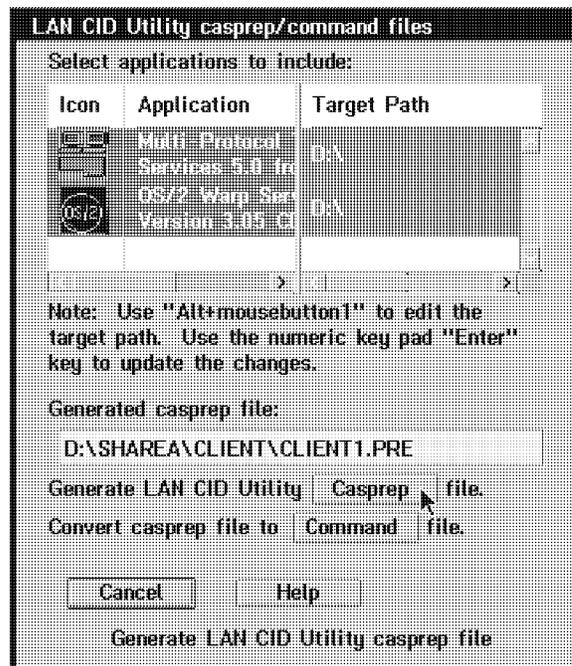

Figure 117. LAN CID Utility Casprep/Command Files Window of CASSETUP
6. To create client-specific LAN CID Utility command files for remote installation, open the Code servers container Selected menu (see Figure 105 on page 162) and select **Create Casprep/Command files...** The LAN CID Utility casprep/command files window will be opened (as shown in Figure 117):
Some products like MPTS and LAN Server don't observe the Target Path specification (see Figure 117 on page 169); they only need the Target Drive, because the path is set by the application itself.